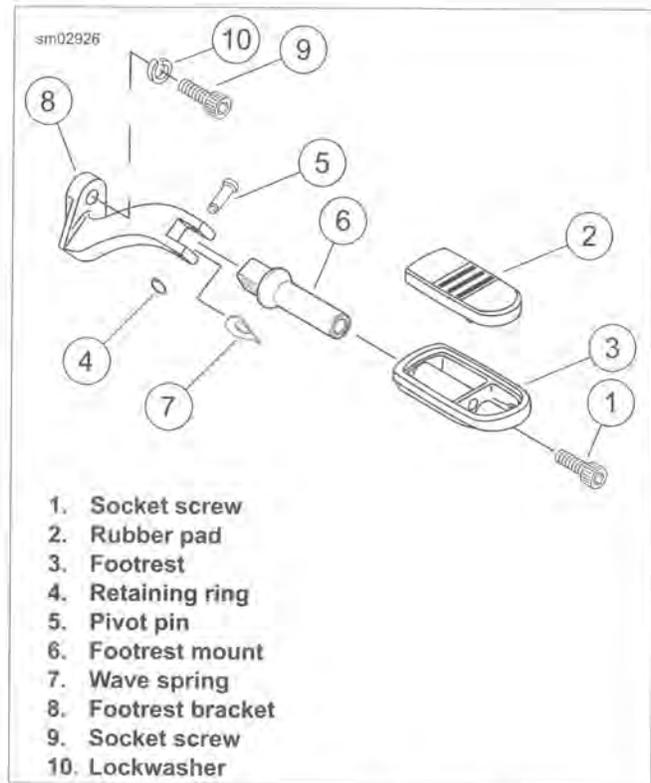

Figure 2-171. Passenger Footrest (FLHX/S)
See Figure 2-171. Remove screw (9) and lockwasher (10) to remove footrest bracket from frame.
1. See Figure 2-171. Remove screw (1). Remove rubber pad (2) from footrest.
2. Remove footrest (3) from footrest mount.
3. Remove retaining ring (4) and pivot pin (5).
4. Remove footrest mount (6) and wave spring (7).
1. See Figure 2-171. Holding wave spring (7) in place with concave side against bracket, install footrest with the rounded side of the pivot end up.
4. Apply a drop of LOCTITE 243 MEDIUM STRENGTH THREADLOCKER AND SEALANT (blue) to threads of screw (1) and install.
2. See Figure 2-171. Install screw (9) and lockwasher (10). Tighten screw to 36-42 ft-lbs (48.8-56.9 Nm).